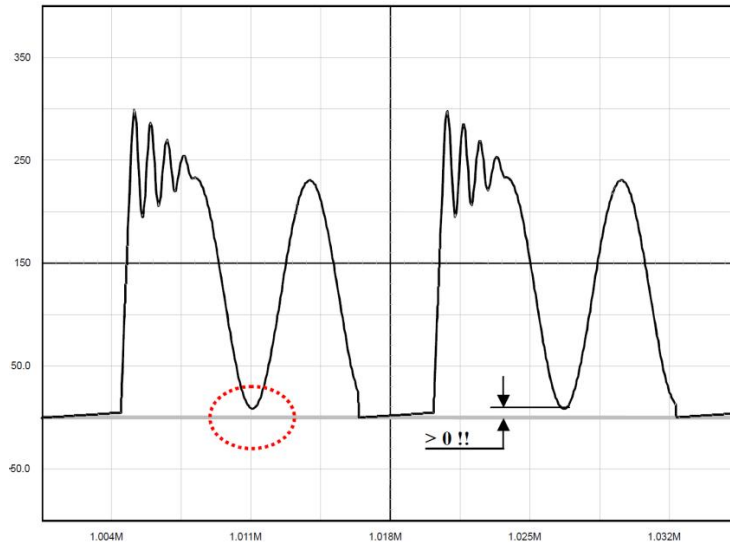

Figure 51. The Drain-Source Wave Shall Always be Positive
1. The lateral MOSFET body-diode shall never be forward biased, either during start-up (because of a large leakage inductance) or in normal operation, depicted by Figure 51. This condition sets the
and defines the amount of ripple we want in CCM, depicted by Figure 51.
Figure 53a: the simple capacitor limits the voltage according to the lateral MOSFET body-diode shall never be forward biased, either during start-up (because of a large leakage inductance) or in normal operation as shown by Figure 51. This condition sets the maximum voltage that can be reflected during  $t_F$ . As a result, the flyback voltage which is reflected on the drain at the switch opening cannot be larger than the input voltage. When selecting components, you must adopt a turn ratio which adheres to the following Equation 6. This option is only valid for low power applications, e.g. below 5 W, otherwise chances exist to destroy the MOSFET. After evaluating the leakage inductance, you can compute C with (Equation 7). Typical values are between 100 pF and up to 470 pF. Large capacitors increase capacitive losses...